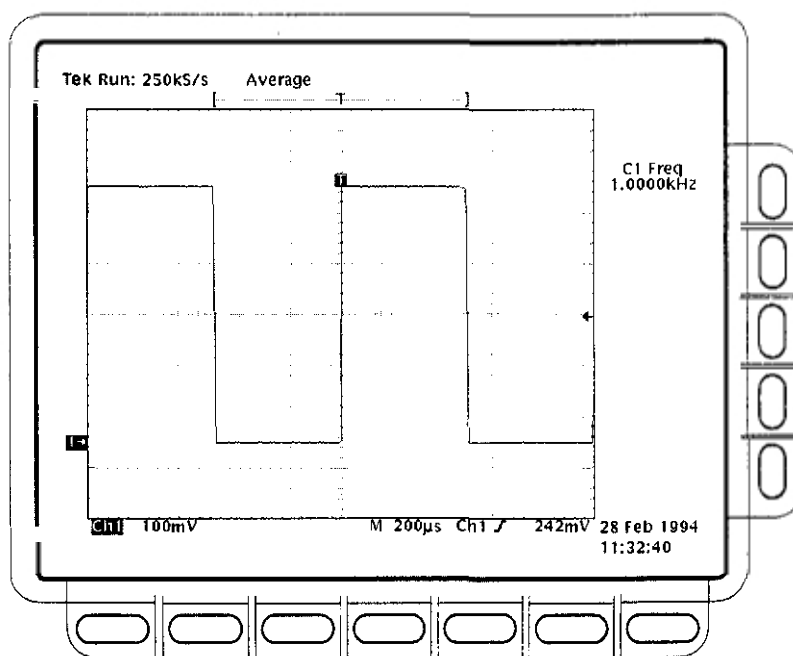

Figure 1-22: Measurement of Probe Compensator Frequency
- CHECK that the **CH 1 Freq** readout is within 950 Hz to 1.050 kHz, inclusive. See Figure 1-22.